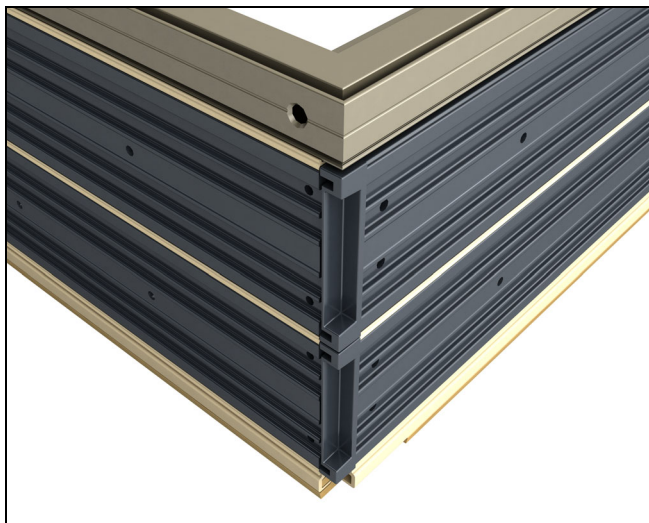

Figure 122
2. Align side jamb to head jamb, using frame cladding corner key as reference. Slide until miter is aligned. See figure 122.
4. Rotate in one structural bracket with pre-drilled holes and install with three #8 x 3" black installation screws. See figure 122.